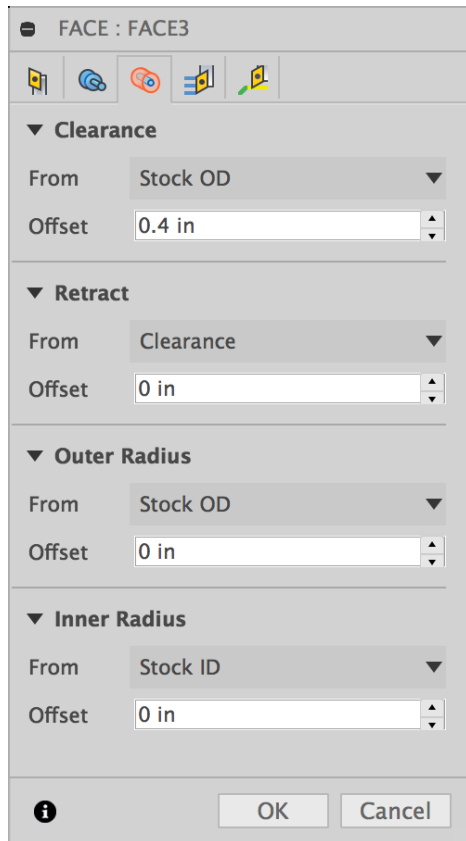

FIGURE 1.19: APPROPRIATE RADII SETTINGS FOR THE FACING PASS.
- Then ensure that you match your **Radii** and **Passes** tabs to Figures 1.19 and 1.21.